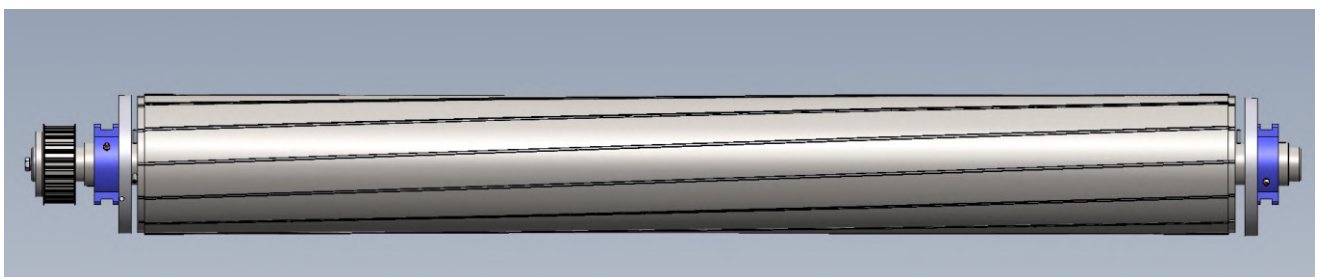

Figure 12
1. Install the knives and fix them with the spacer and springs (Figure 12).
The Cutting Roller is driven by a gear motor and a distribution belt (see section Positioning, fixing and connecting). It is recommended to check the tension of the belt every 1000 working hours approx.; if the belts are loose, they must be tightened with the supplied tool for the CHOPPER (fig. 12, 13).